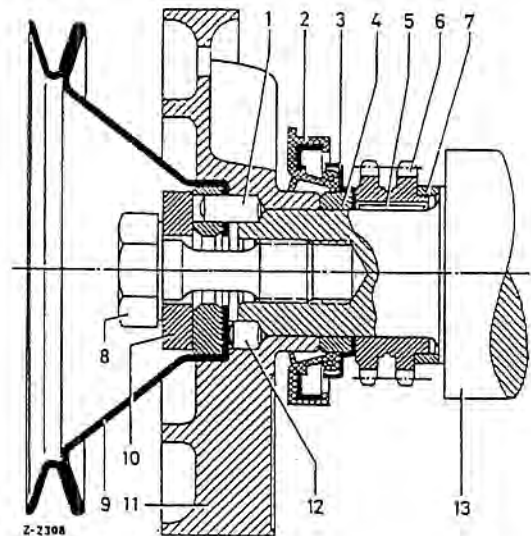

Fig. 03-10/1
2. Unscrew the stretch screw (8) together with washer (10) from the crankshaft. Remove vee-pulley (9) and counterweight (11) from the crankshaft, using Puller Part No. 112 589 07 33 00 (Fig. 03-10/1). Replacement of a damaged counterweight is impossible with the crankshaft installed. For replacement the crankshaft has to be removed and rebalanced together with the new counterweight.
3. Fit the counterweight (11) to the crankshaft (13) in such a way that the bores for the cylindrical pins (1) and (12) are aligned. Then drive home the two cylindrical pins (Fig. 03-10/1).
4. Fit on the vee-pulley (9) and tighten by means of the stretch screw (8) and the washer (10) (see Fig. 03-10/1). For tightening torque of stretch screw see Job No. 00-0.